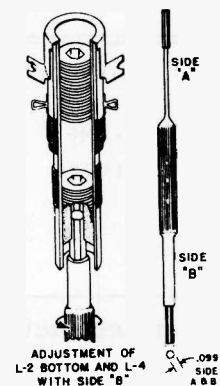

Figure 7
42.6 MC. Unmodulated	T-3 Tap See Fig.7.
42.6 MC. Unmodulated	L-2 Bottom See Fig.7.
⊗ L-4 is mounted on same coil form as T-3 and should be adjusted by a hex head fibre align. tool as indicated in fig. 7.